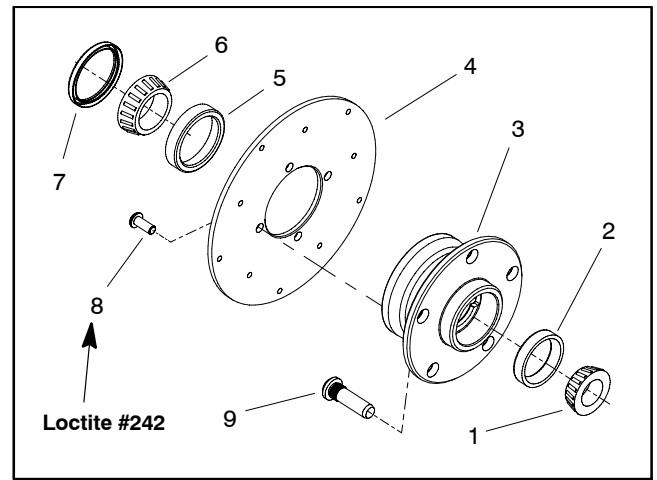

Figure 11
8. Disassemble the wheel hub (Fig. 11):
3. Assemble wheel hub (Fig. 11):